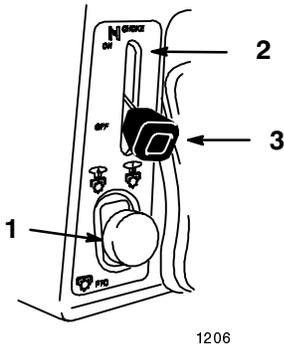

Figure 3
3. Push the PTO (power take off) to “OFF” (Fig. 3).
4. Move the choke lever to “ON” (Fig. 3).
- After the engine starts, move the choke lever to “OFF” (Fig. 3). If the engine stalls or hesitates, move the choke lever back to “ON” for a few seconds. Then move the throttle lever to desired setting. Repeat this as required.